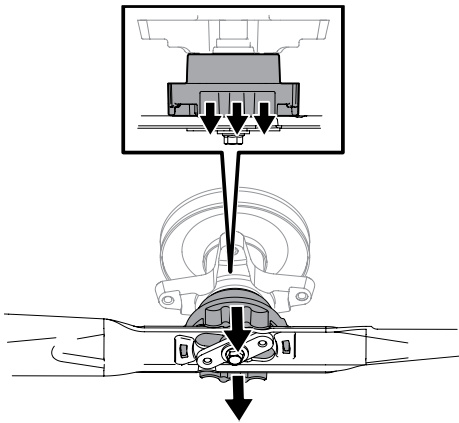

Figure 4-12
- There will be an audible click when the blade is properly locked in place. See Figure 4-12.